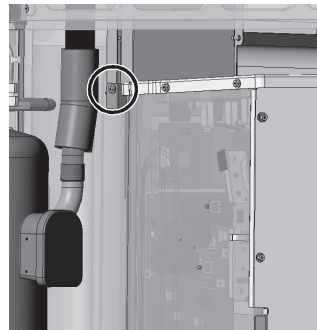

Figure 6
- (6) Remove the duct by unscrewing the screw. (See Figure 6. Applicable to the S-module only)